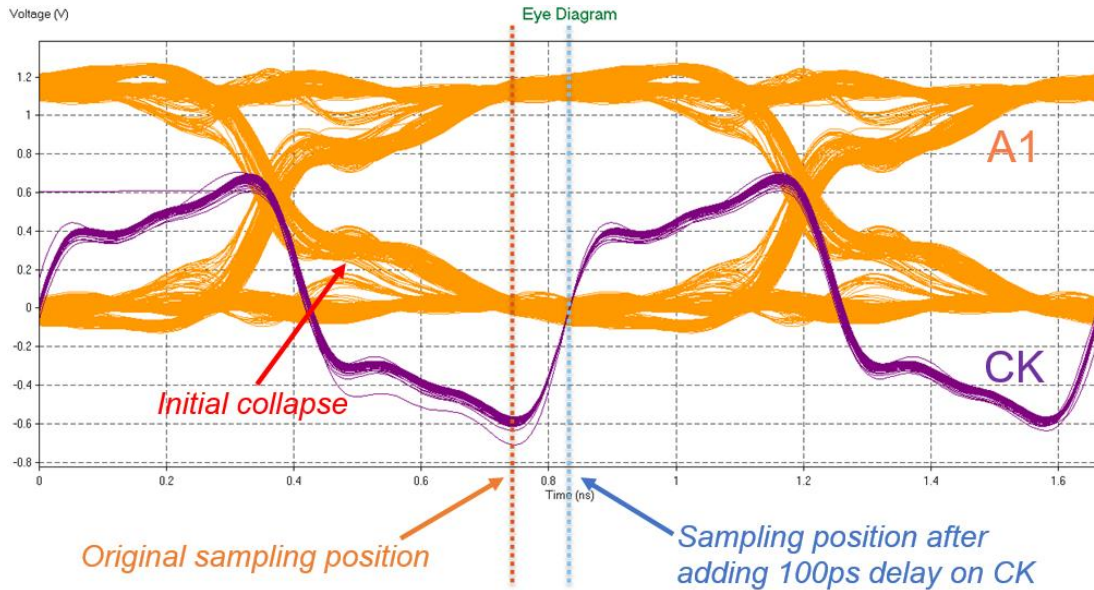

Figure 6. Initial eye collapse on address signals
2. 2pcs x16 DRAM routed in T-topology is recommended to achieve total 2GB density. When doing T-topology routing, it is recommended to keep the propagation delay of each branch less than 150ps (about 900 mil in length), with no larger than 10ps difference between the two branches. In this case, VTT termination can be eliminated to ease routing and save BOM cost. In addition, there is an initial collapse on the eye diagram of Addr/Cmd/Ctrl due to absence of VTT termination. To make the sampling position still at the center of the eye opening, CK should be routed with propagation delay 100ps larger than that of Addr/Cmd/Ctrl, as shown in Figure 6.